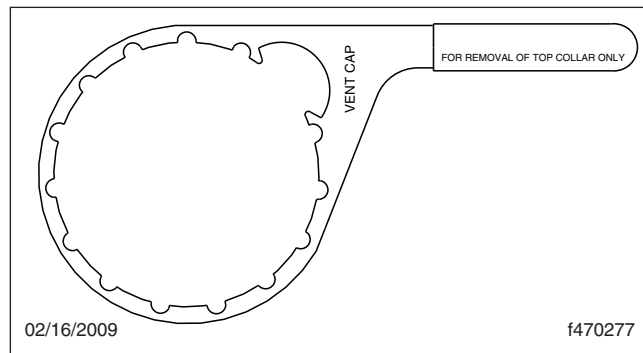

Fig. 3, DAVCO Collar Wrench
5. Using a DAVCO Collar Wrench, shown in **Fig. 3**, remove the clear cover and collar.